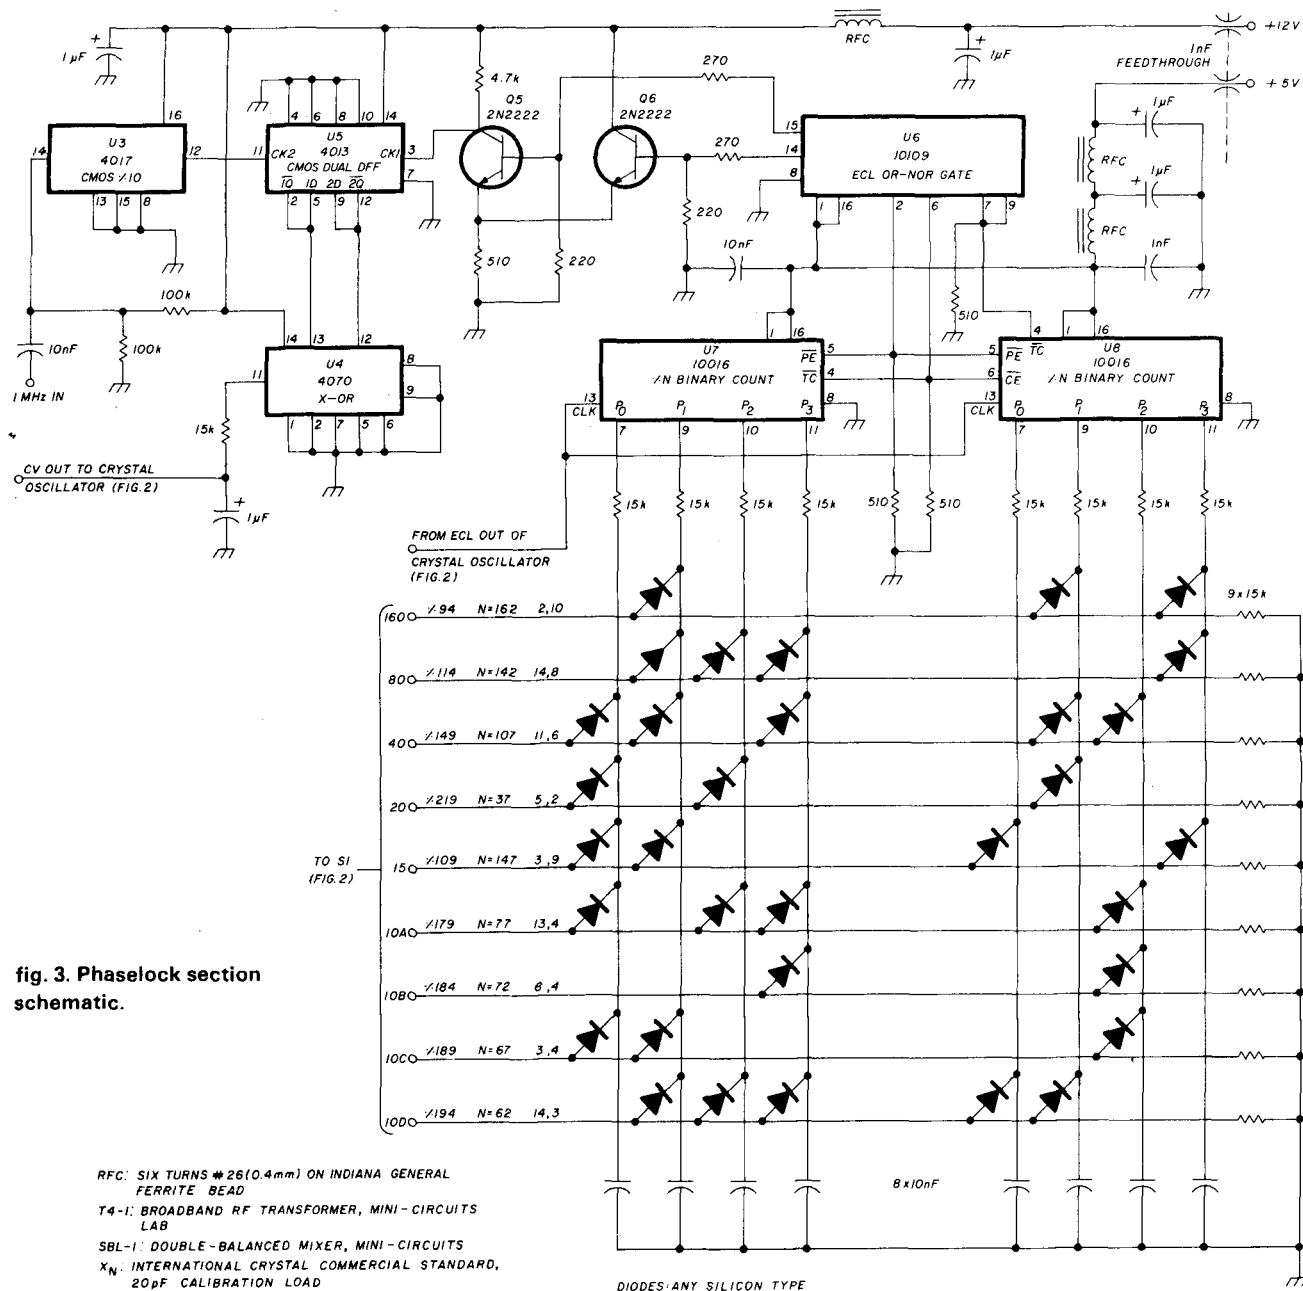

fig. 3. Phaselock section schematic.
**Phaselock section (fig. 3).** The ECL output of the crystal oscillator section is divided to 100 kHz by 8-bit programmable binary counter U6-U8. The diode matrix controlled by S1 sets the division ratio; the desired division ratio plus the binary number preset by the diode matrix must always equal 256. Because the phase detector requires symmetrical square-wave inputs for best performance, the 100-kHz outputs of the counter and reference divider U3 are first divided by two in U5. The combination of very low VCO gain in the crystal oscillators and the high reference frequency used in the phase detector make it possible to suppress reference-frequency modulation of the VCOs by more than 100 dB.